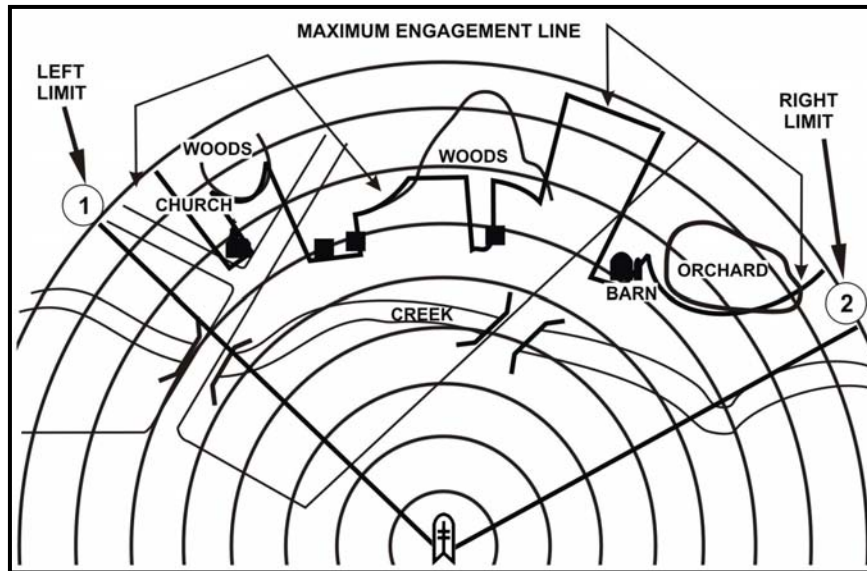

Figure D-6. Left and right limits of sector of fire and maximum engagement line.
c. **Left and Right Limits.** Left and right limits are imaginary lines from the gunner's firing position to a designated point on the ground (Figure D-6). Use terrain features when possible to designate left and right limits. Other recognizable objects, such as a building or other man-made structures, can be used. The area between the left and right limits depicts the gunner's sector of fire or area of responsibility. Lines are drawn from the designated firing position to the MEL in the area of the designated limits. Number the left limit as *No. 1*, number the right limit *No. 2*, and place a circle around each number. **Record the azimuth and distance of each limit in the data section.**
d. **Maximum Engagement Line.** The MEL designates the maximum effective range of a weapon (TOW) and the gunner's line-of-sight limitations due to the terrain in his given sector of fire (Figure D-6, page D-6).
(1) If there are no limitations, draw the MEL along the last circle in the sector sketch section. The line should connect with the left and right limit labels.
(2) If there are limitations, starting at the left limit, draw the MEL in front of the limiting terrain features. The MEL should extend in front of and follow the limitations until it reaches the right limit.